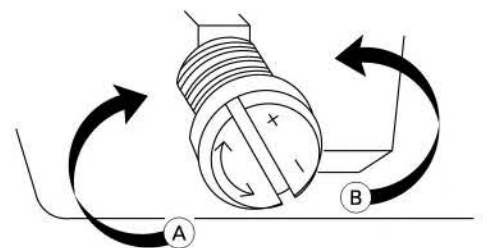

Figure 11
**Adjusting the amount of oil supplied to the hook (Figure 11)**